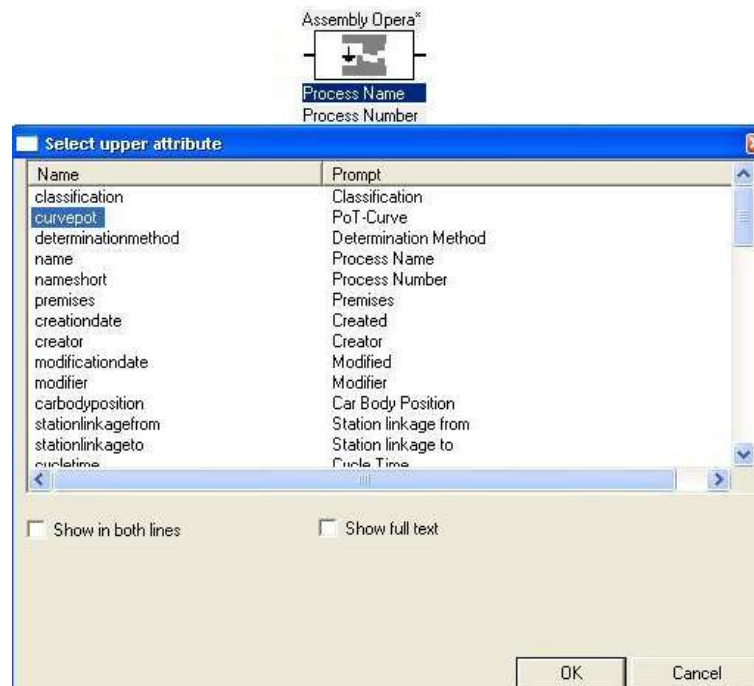

Figure 6: Select New Attribute – Line one PoT Curve
- 3) Confirm the selection with **OK**. Please refer to the Figure 6.